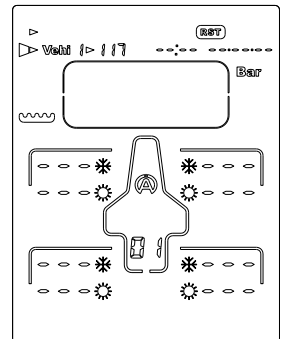

Figure 16
- 4) Press the central button  during 1 second, to erase all data of vehicle 1 (figure 16)